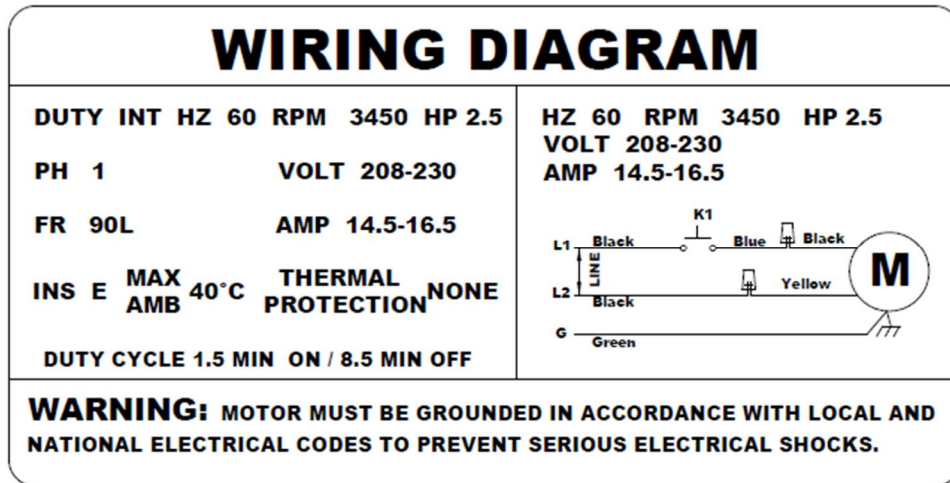

Fig. 18
1. Have a certified electrician make the electrical connection to the power unit. Use a separate circuit for each power unit, as shown below in (Fig. 18 & 19).